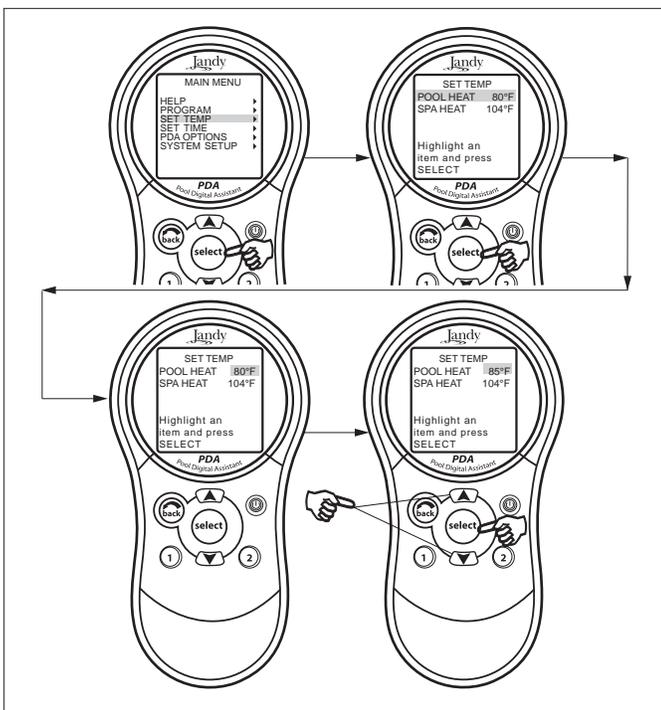

Figure 25. Set Temperature Menu - Pool/Spa Combination
**Pool/Spa Combination** - Highlight MENU and press SELECT. Highlight SET TEMP and press SELECT (see Figure 25). Use the UP or DOWN button to highlight either POOL or SPA and press SELECT. Use the UP or DOWN button to increase or decrease the temperature and press SELECT. Use the BACK button to return to the main screen.